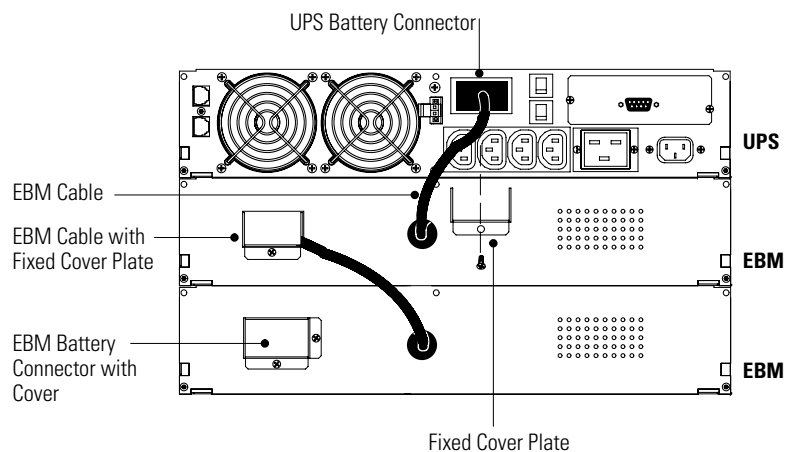

Figure 17. EBM Installation for E/EH UPS Models Only
6. Plug the EBM cable into the UPS battery connector (see Figure 17).
7. Attach the fixed cover plate (supplied in the accessory kit) to the EBM cable as shown in Figure 17.